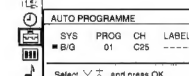

Fig. 4
- Select »Auto Programme« with  $\Delta$  or  $\nabla$  and press OK. The AUTO PROGRAMME menu appears. (See Fig. 4.)